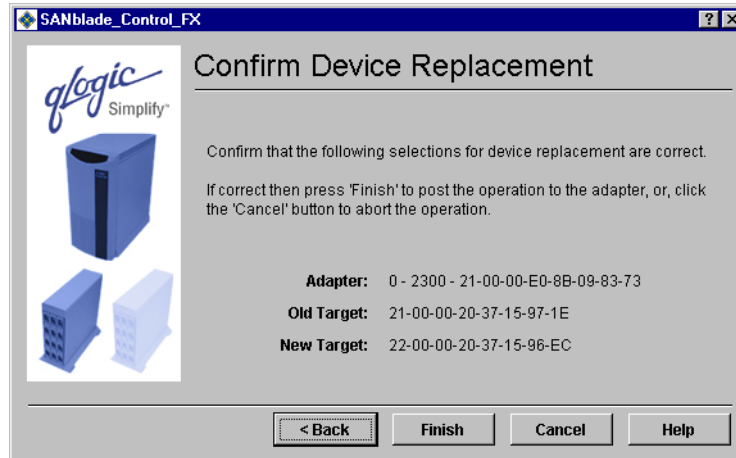

Figure 14-27. Confirm Device Replacement Dialog Box
7. If you clicked **Next**, the **Confirm Device Replacement** dialog box displays (see figure 14-27).